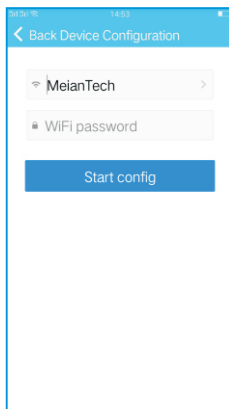
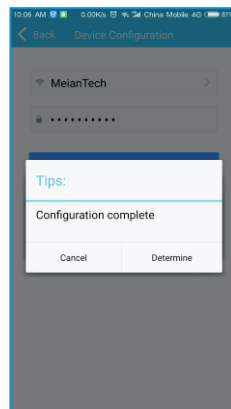

Fig. 5-6
Fig. 5-7
Step 3: Enter the name and password of the WiFi to be connected(Fig. 5-6), click “Start Config”, and click Host when the host screen displays “Configuration Successful”(Fig. 5-7).